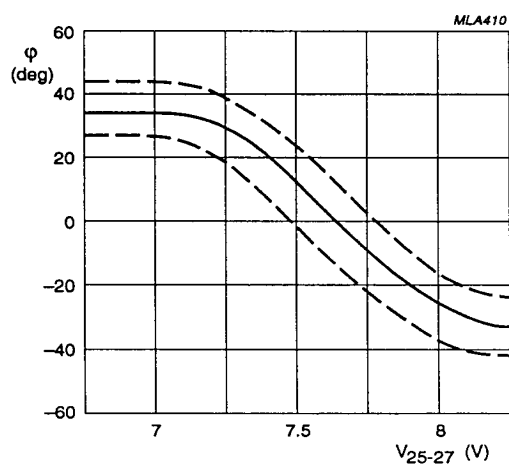

Fig.6 Hue control voltage range.
14. The voltage at pins 24 and 25 can be changed by connecting the load resistors (20 k Ω , 1%, in this condition) to the slider bar of the hue control potentiometer (see Fig.6). When the transistor is switched on, the voltage at pins 24 and 25 is reduced below 9 V, and the circuit is switched to NTSC mode. The width of the burst gate is assumed to be 4 μ s typical.